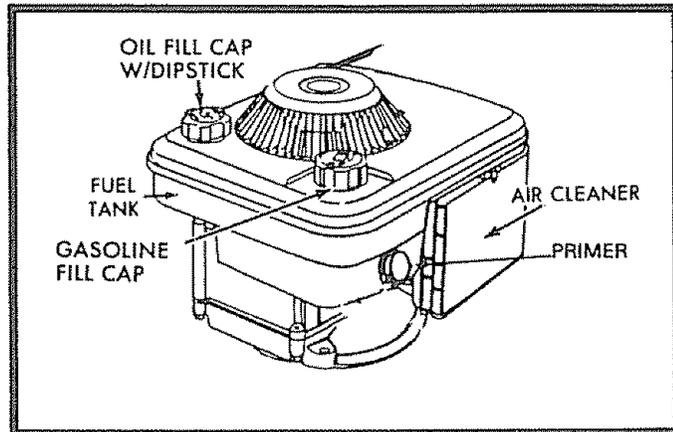

FIG. 9
- Remove engine oil cap with dipstick (See Fig. 9) and fill to the FULL line on the dipstick.
- After the first two (2) hours of mowing, change the oil, and every 25 hours thereafter. You may need to change the oil more often under dusty, dirty conditions.
- Fill gasoline tank with fresh, clean unleaded gasoline. **DO NOT USE PREMIUM GASOLINE. BE CAREFUL NOT TO OVERFILL TANK (SEE FIG. 9).**